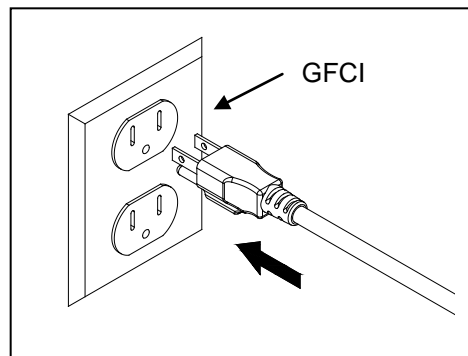

Fig. 11
5. Connect the PCUV9 plug into a properly grounded electrical outlet. Fig. 11